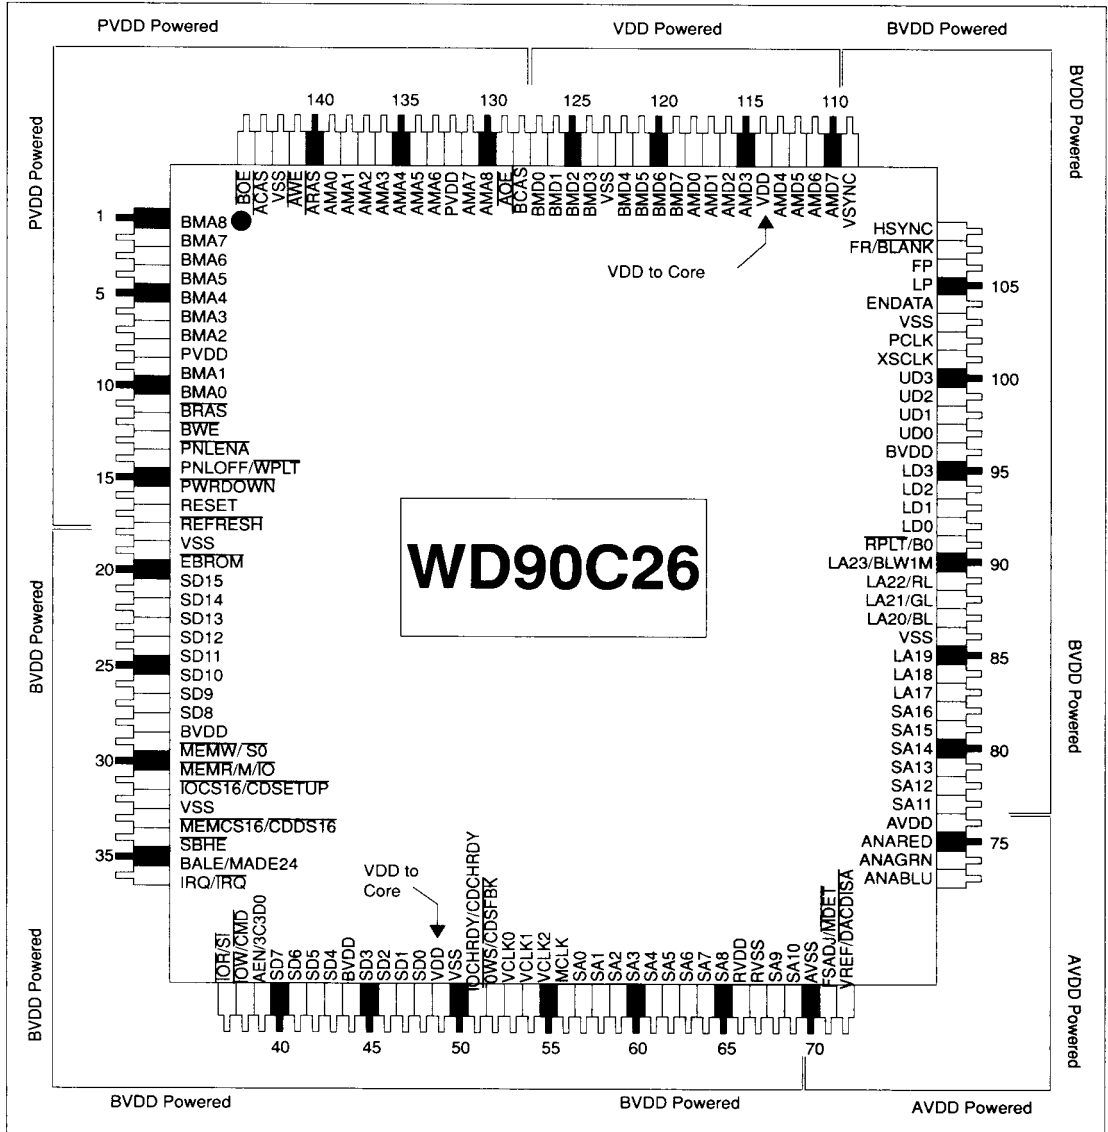

FIGURE 6-1 POWERING OF WD90C26 I/O PINS
- Powering of WD90C26 I/O Pins (Figure 6-1)